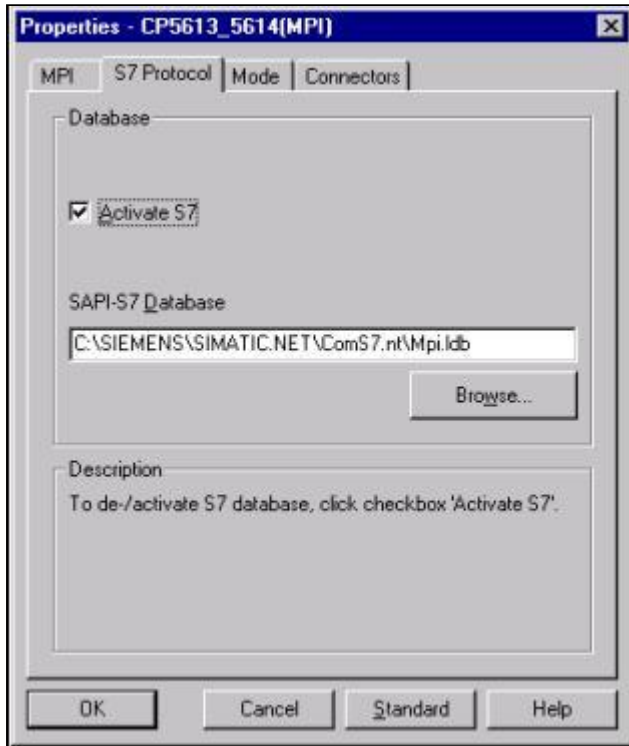

FIGURE 6: THE PROPERTIES - CP5613\_5614 (MPI) DIALOG BOX
- o The Properties - CP5613\_5614(MPI) dialog box appears (Figure 6).
6. Search the directory where the .txt and .ldb files were created and saved with the COML S7 software, as illustrated in Figure 6.